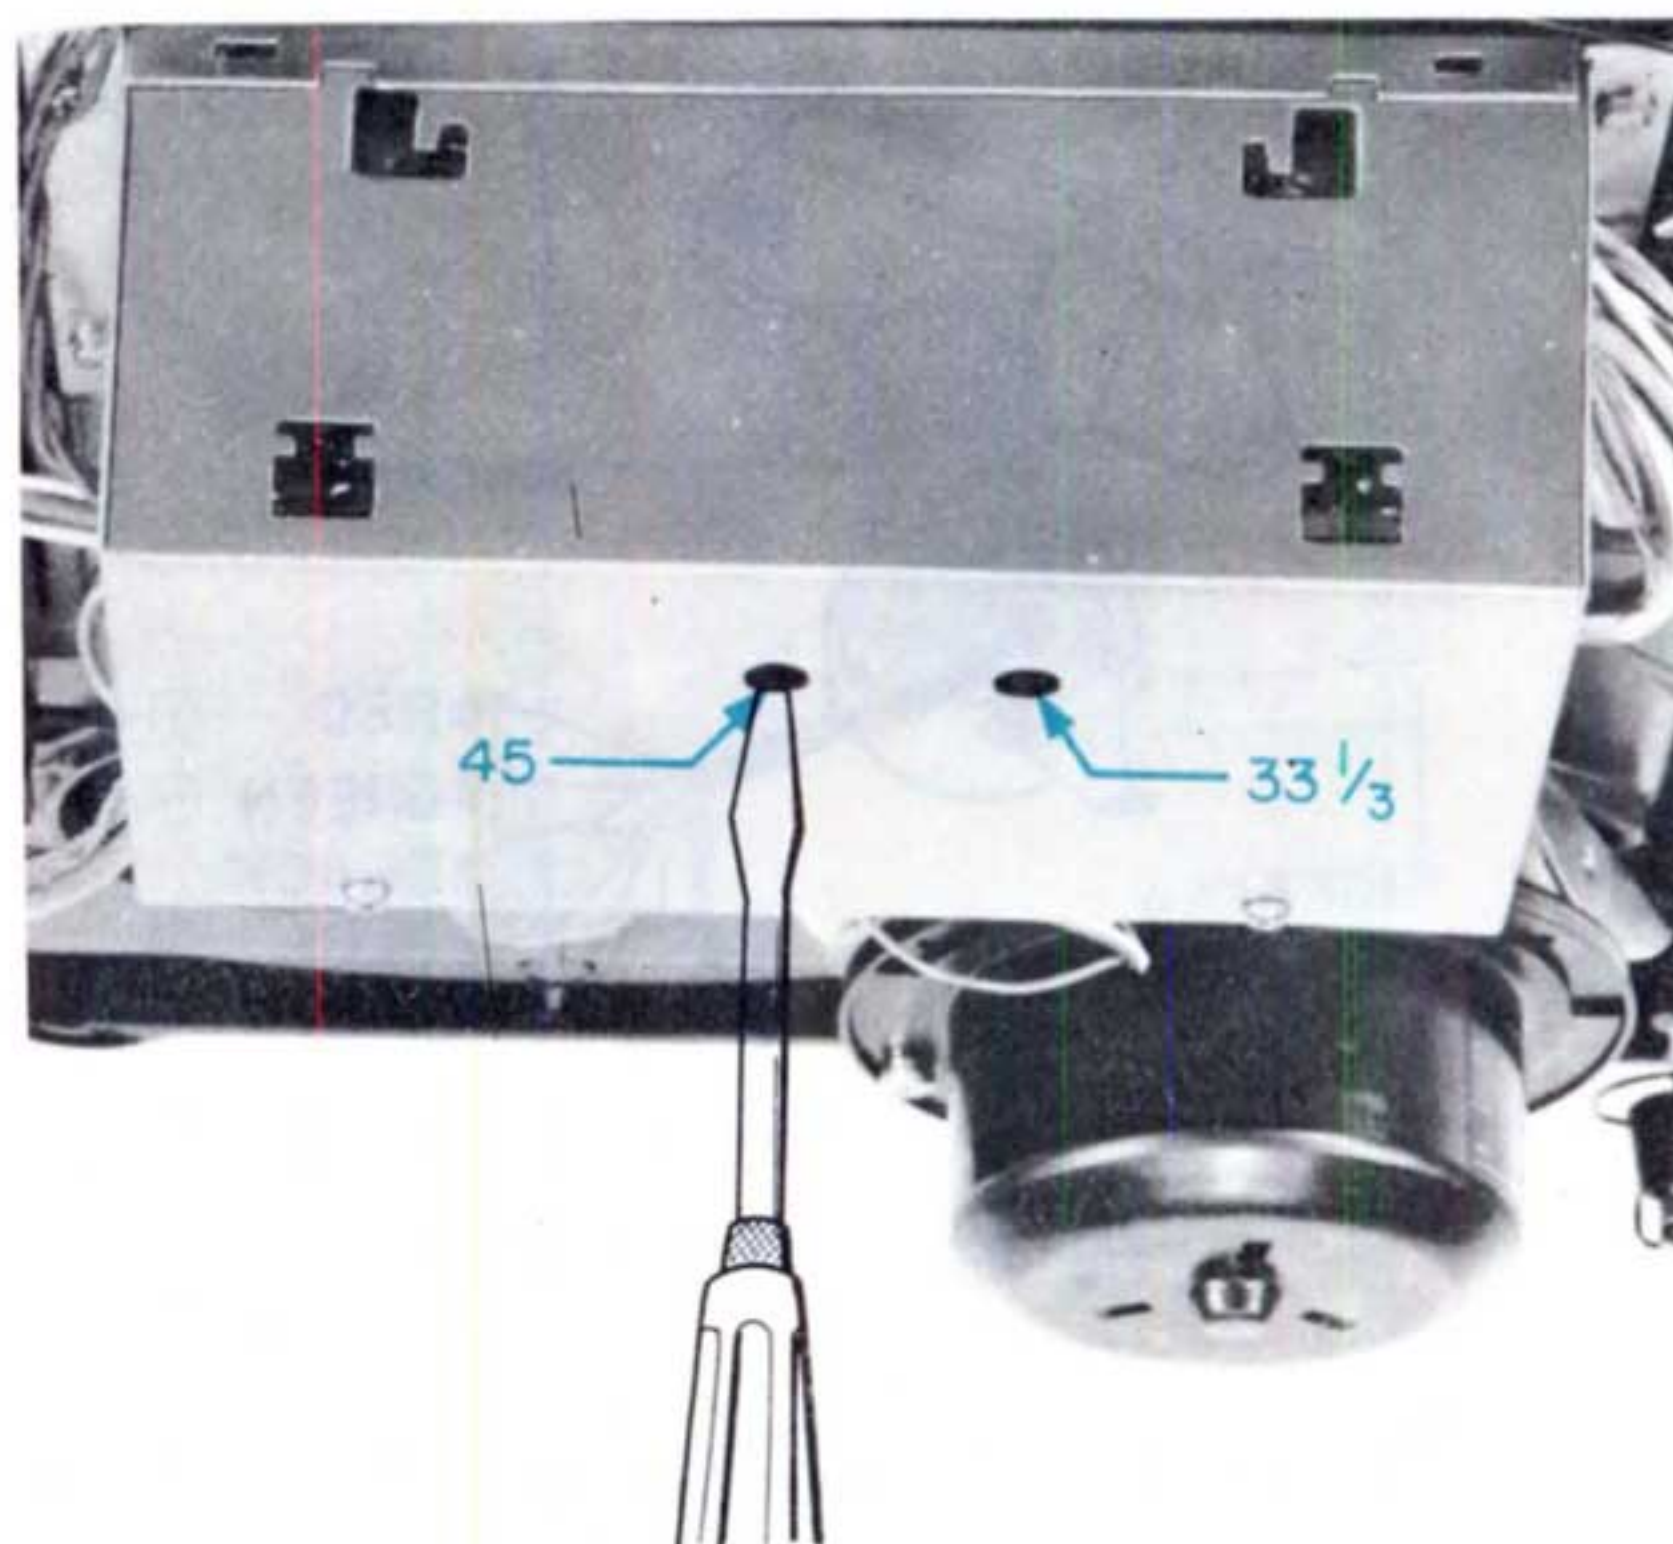

Fig. 3-2 Fine Speed Control Adj.
3. Set the 33-45 Control to the desired speed and turn the appropriate semifixed resistor until the strobe indicates the correct operating speed. See Fig. 3-2.